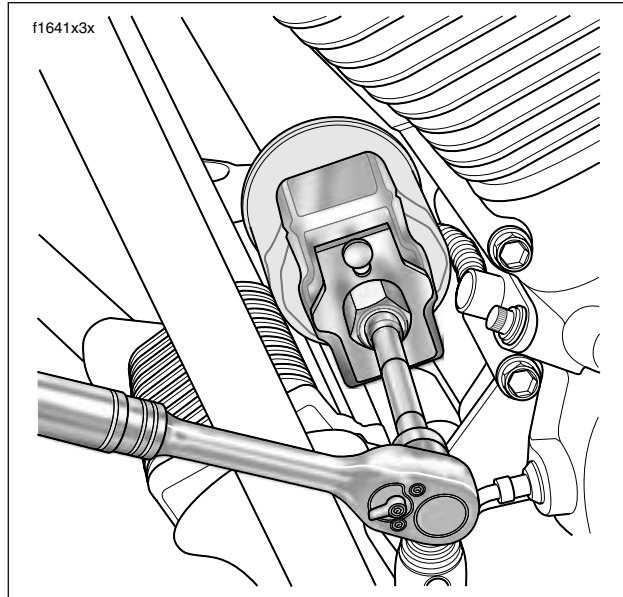

Figure 1-1. Remove Engine Oil Filter
- b. Place the jaws of the wrench over the oil filter with the tool oriented vertically. See Figure 1-1.